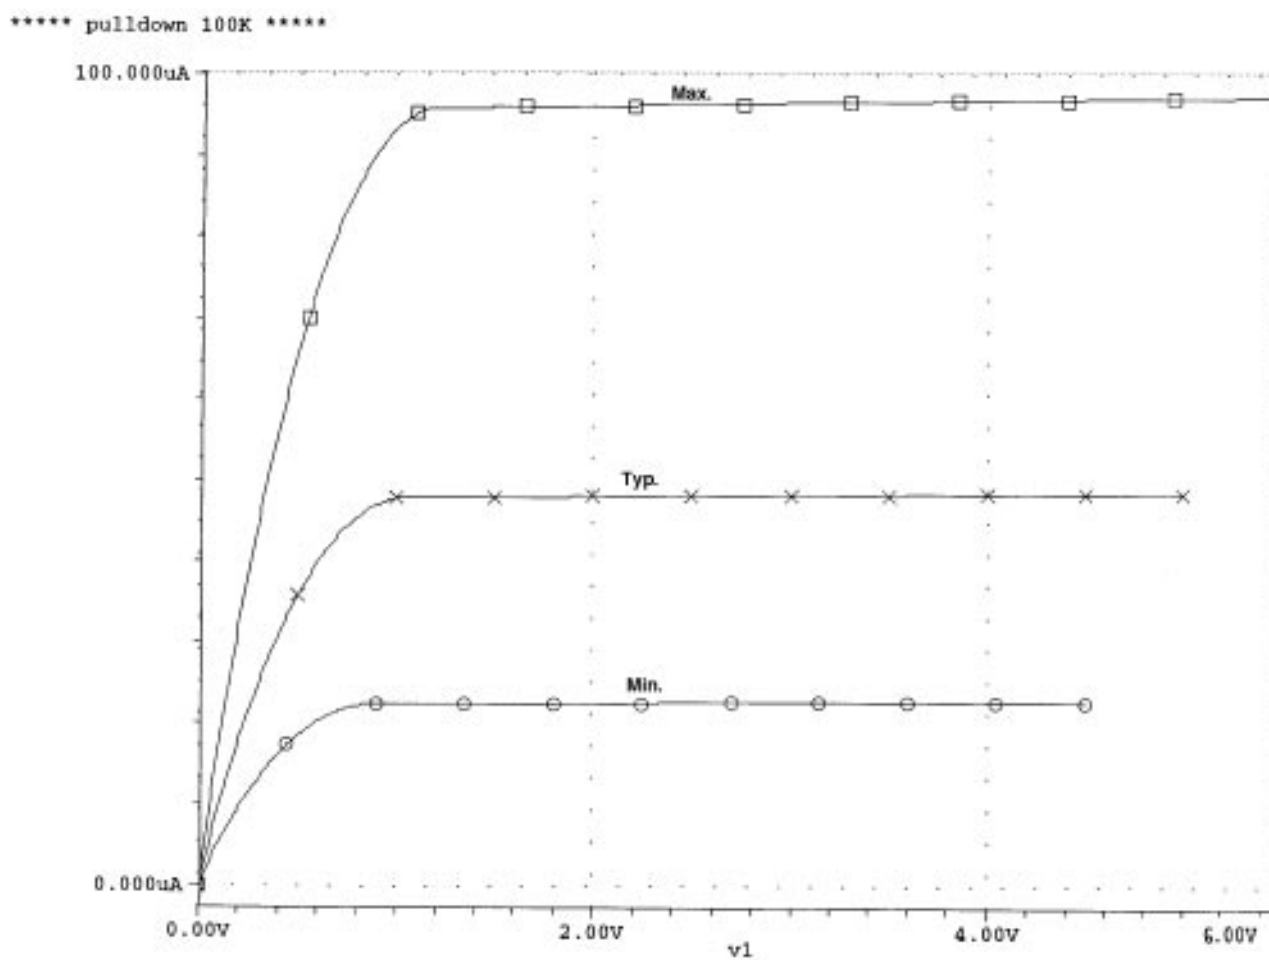

Figure 6. Typical Current Versus Pin Voltage Values
**Port 0 (P02-P00).** Port 0 is a 3-bit, I/O programmable, bi-directional, CMOS-compatible I/O port. These three I/O lines can be configured under software control to be input or output (see Figure 5). When Port 0 is configured as an input port, all lines have the capability to be globally configured (ROM mask option) for a 100K pull-down or pull-up resistor. The pull-up/pull-down resistor can be disabled as well. (No current is drawn if disabled.) Graphs showing current versus pin voltage are shown in Figures 6 and 7.